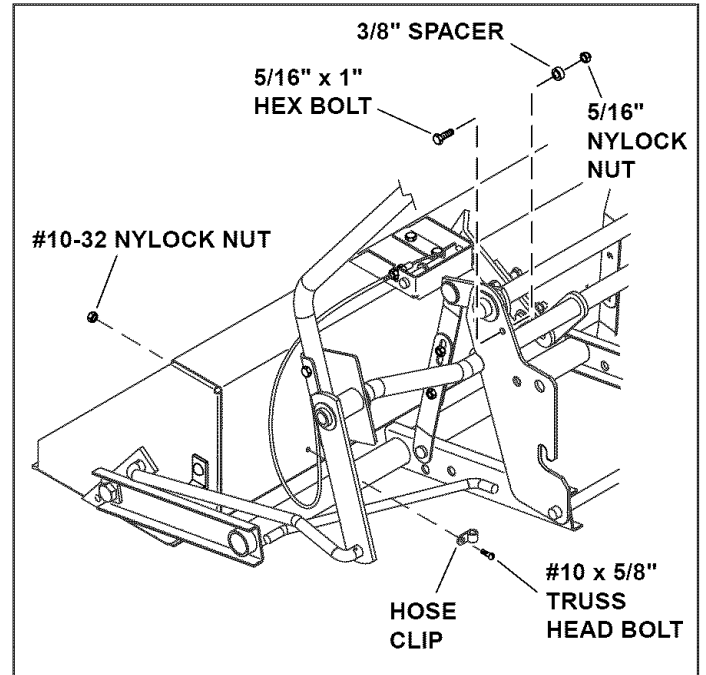

FIGURE 17
- Secure the dump cable to the back of the bucket using a hose clip, #10 x 5/8" truss-head bolt and #10-32 nylock nut. See figure 17.
- Store the unused 3/8" spacer from step 7 on the lift frame using a 5/16" x 1" hex bolt and nylock nut. See figure 17.